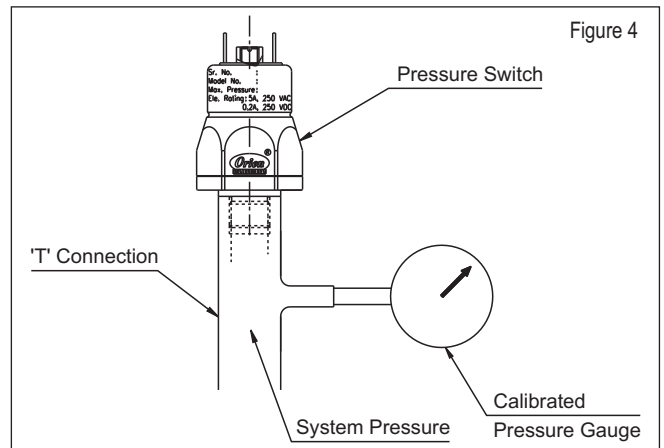

Figure 4
- i) Use 'T' connection and connect calibrated pressure gauge to the 'T' connection as shown in Figure 4.